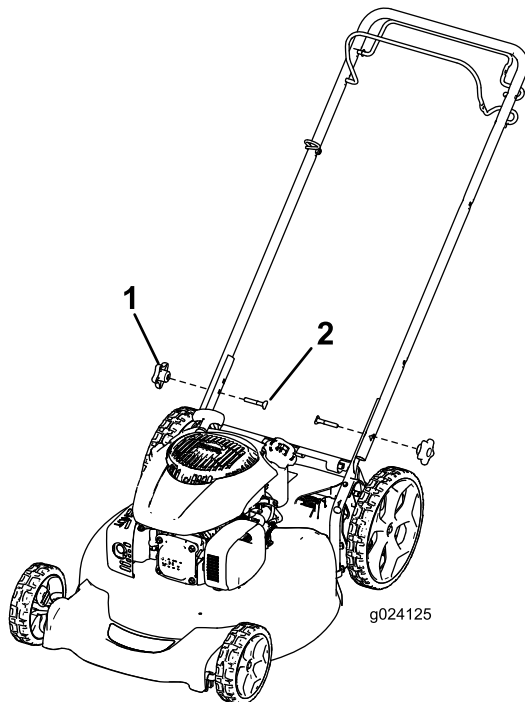

Figure 3
1. Remove the handle knobs from the machine housing (Figure 3).
2. Move the handle to the operating position (Figure 3).